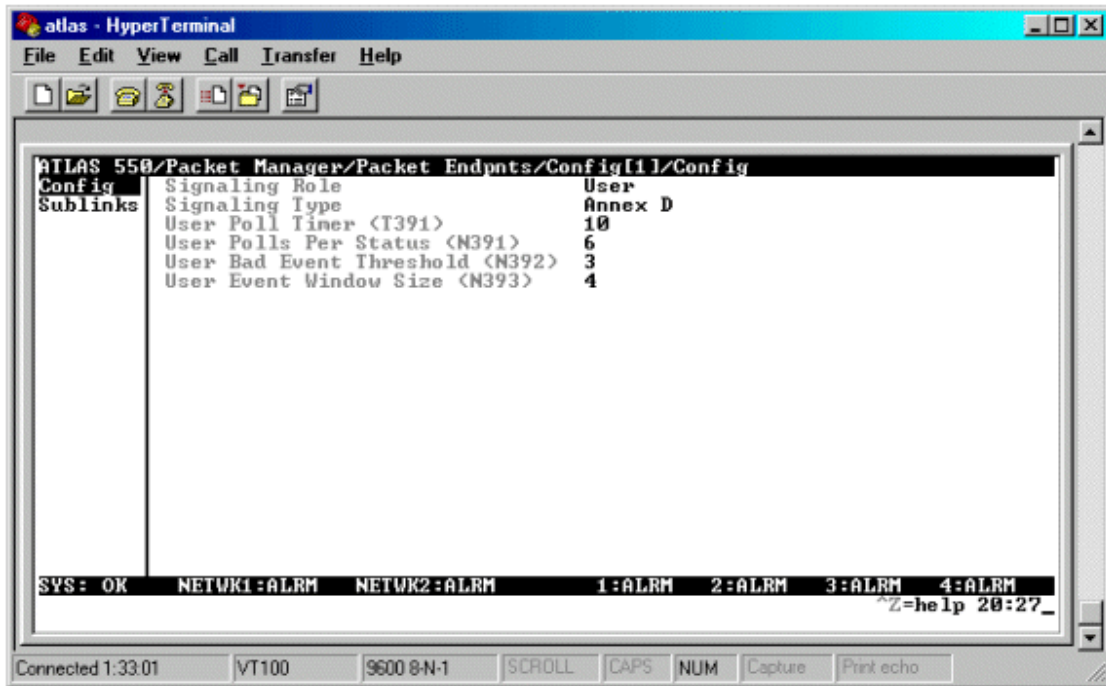

Figure 15
6. At the host site, we changed the **Signaling Role** to **Network**. In a private frame relay application, one end must act as the **Network** and the other end must act as the **User**. Since we have already designated the host end as the **Network**, we will need to set the remote end for **User**. **Figure 15** shows an example of this configuration.